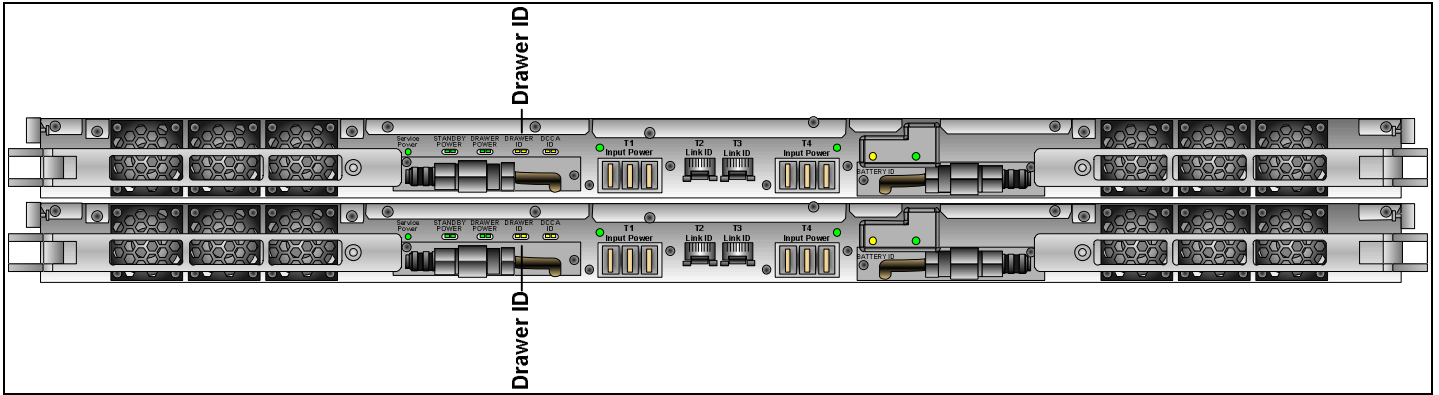
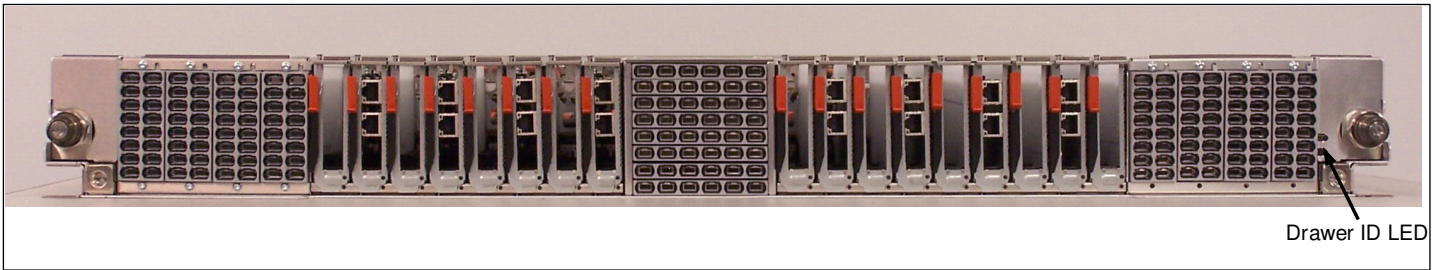

Figure 6 CEC Drawer ID – Front
Figure 7 CEC Drawer ID - Rear
STEP 7 Locate the CEC with the L-Link Cable requiring service. The CEC Drawer Identify LEDs (see Figure 6 and Figure 7) will be flashing. If the LEDs are not flashing, verify the FRU via MTMS (machine type model serial number).